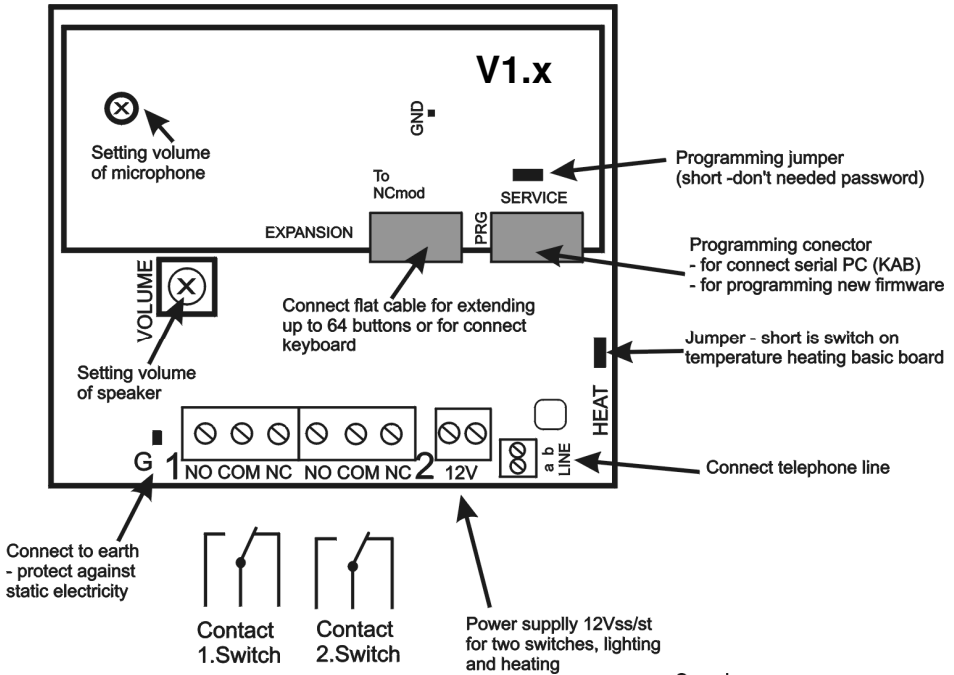

Fig. 1 Rear view of Controller Module
- The connection of switch contact terminals shown on fig. 1.